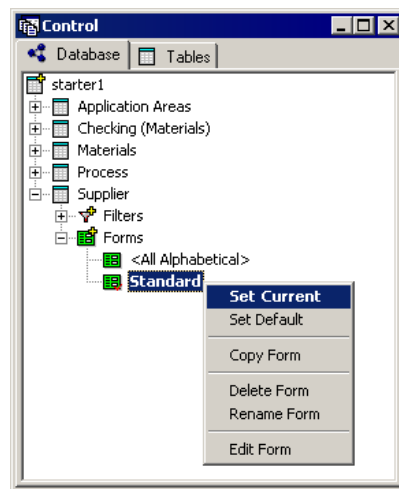

Fig. 10.17 Setting the current form
**Right-click on the 'Standard' form icon on the Suppliers branch in the Control window. Select the option 'Set Current' (figure 10.17)**